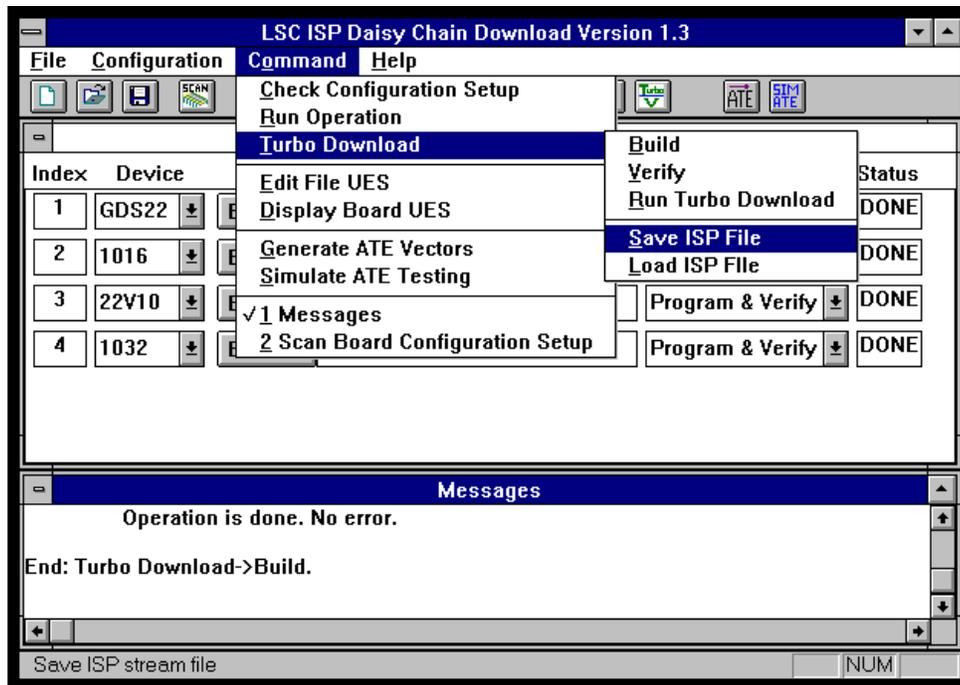
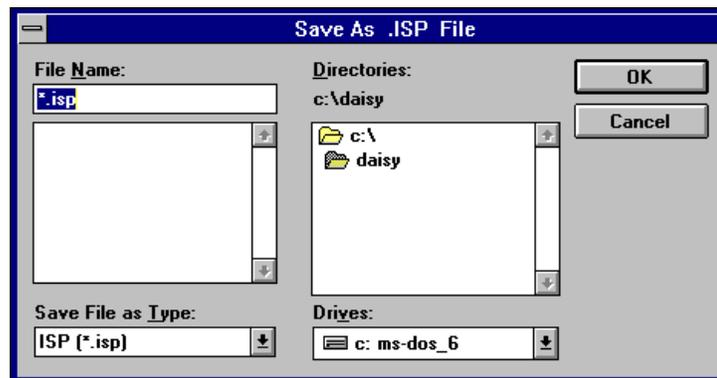

Figure 3-13. **Command** ⇒ **Turbo Download** ⇒ **Save ISP File** Menu Item
Figure 3-14. Save As .ISP File Dialog Box
1. Select **Command** ⇒ **Turbo Download** ⇒ **Save ISP File** or the **Turbo Save** icon from the ISP Daisy Chain Download menu (Figure 3-13). The Save As .ISP File dialog box appears (Figure 3-14).